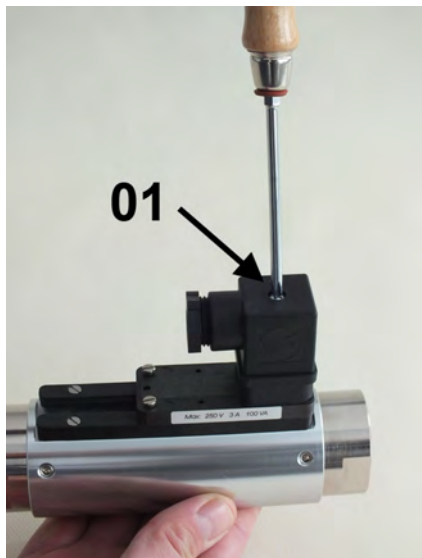

Fig. 54: Loosen female socket
1. ➤ Loosen the fixing screw of the female socket (Fig. 54/01) with a flat-bladed screwdriver.